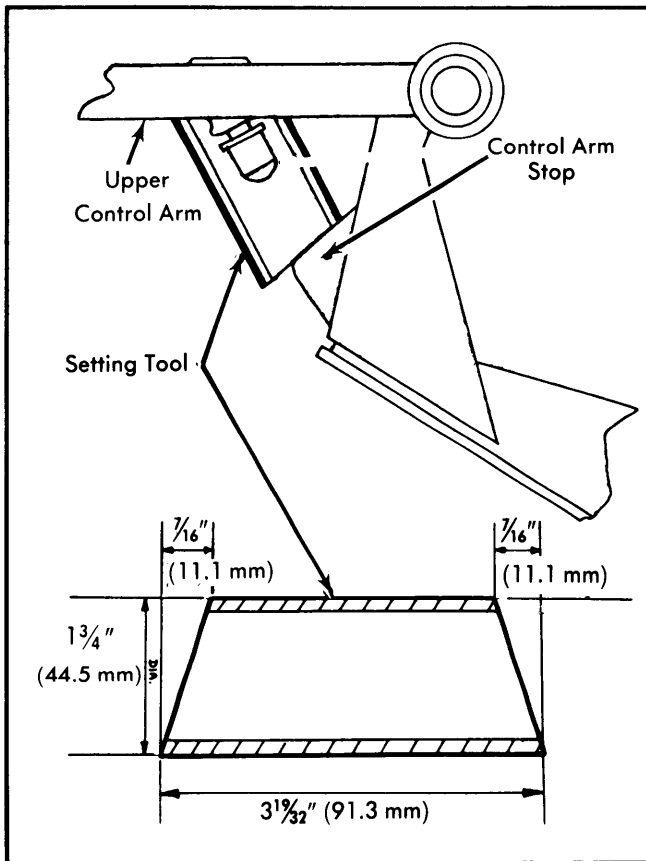

Fig. 1 Dimensions for Fabricating the Two Necessary Setting Tools
- 1) Ensure vehicle is on level ground and that tires are properly inflated. Before checking or adjusting caster or camber it will be necessary to fabricate two setting tools (See Fig. 1).